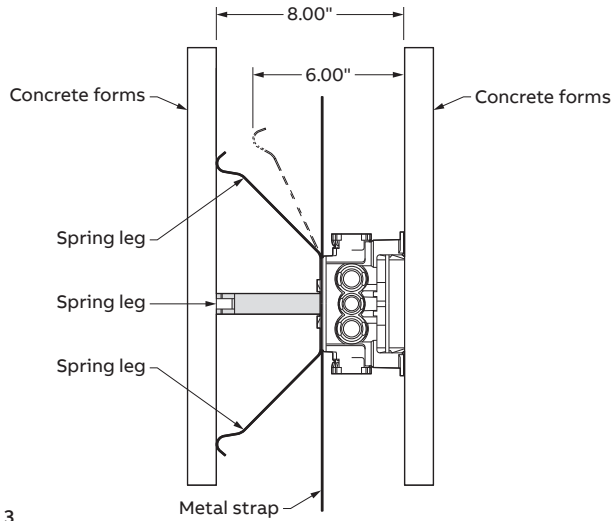

Figure 3
4. Fit assembled product between concrete forms by compressing spring legs, optimal working range is 6" - 8" between concrete forms (Figure 3).